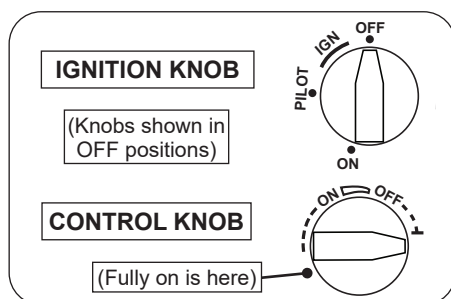

Fig. 25-1 Ignition and control knobs
2. Locate the valve on the unit. Push in the ignition knob slightly and turn clockwise ↻ to **OFF** (see Fig. 25-1).
5. While still holding the knob in, turn the knob counterclockwise ↺ to **PILOT** until you hear a click (piezo igniter will activate and light pilot). Continue to hold the knob in for about one (1) minute after the pilot is lit. Release the knob and it will pop back out. The pilot will remain lit. See Fig. 25-1 and 25-2. If it goes out, repeat steps 2-5.
1. Ensure the pilot is burning. Turn the ignition knob counterclockwise ↺ to **ON** (see Fig. 25-1).
2. Turn the control knob counterclockwise ↺ to the fully ON position to ignite the burner (see Fig. 25-1). The valve will open and the burner will light.
To shut down the main burner (pilot will remain lit), turn the control knob clockwise ↻ to the fully OFF position (see Fig. 25-1).
To shut down the burner and pilot (total shutdown), turn the control knob clockwise ↻ to the fully OFF position, and push in the ignition knob slightly and turn clockwise ↻ to **OFF** (see Fig. 25-1).